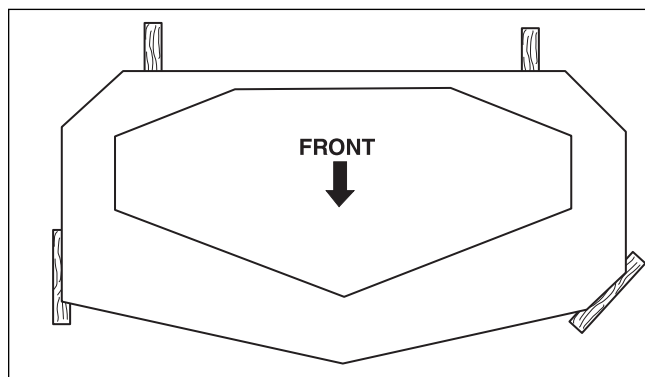

Figure 40. 2 x 4 Locations
6. Block up the mower deck until all hanger chains are slack. Refer to Figure 40.
3. Place 2 x 4 blocks under each corner of the mower deck with the 3-1/2" sides being vertical. Place a 1/4" (0,64 cm) thick spacer on top of the rear 2 x 4 blocks. See Figure 40.